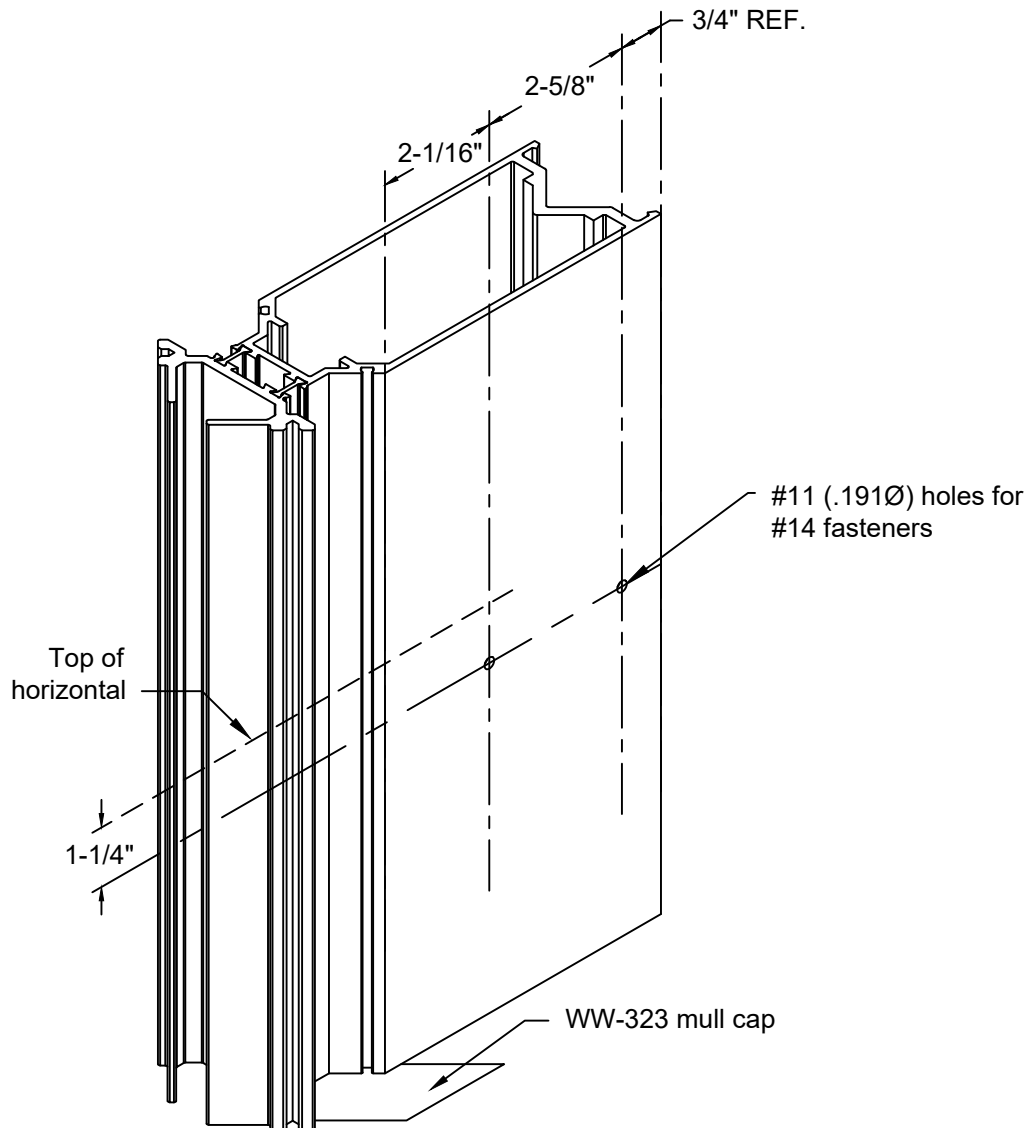

FIGURE 31
- 4.1 Fabricate vertical mullions for horizontal members as shown in **FIGURE 31**. Drill tap holes using #11 (.191Ø) drill.